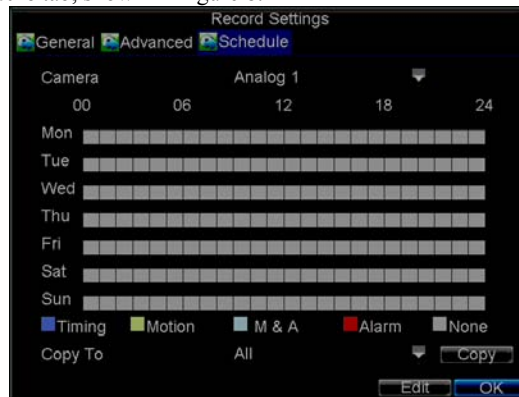

Figure 8. Schedule Settings
17. Select the **Schedule** tab, shown in Figure 8.